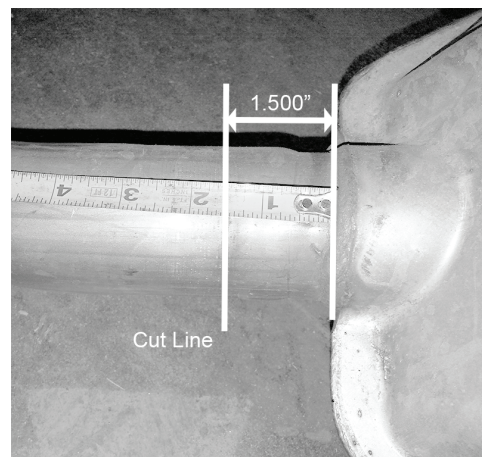

Figure 1.
- Step 1:** Raise and support Vehicle. Using a tape measure mark the tube 1.5" from the weld seam of the rear mufflers, mark both sides. Take your time to ensure this measurement is properly marked. (Figure 1)